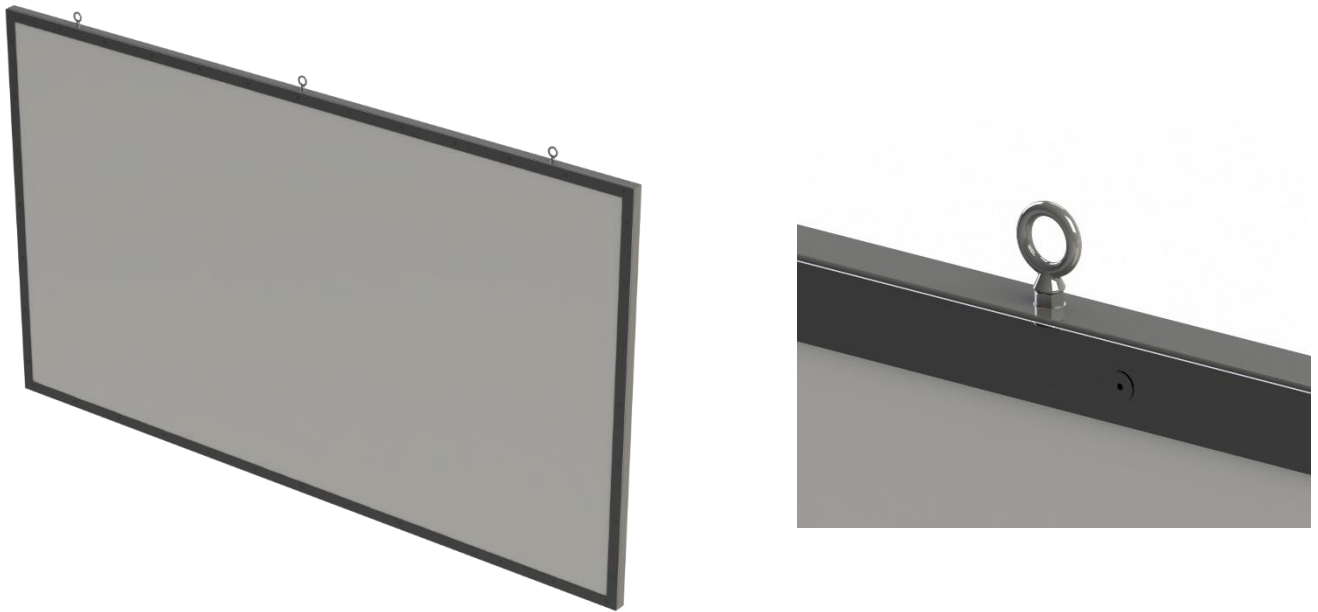

Figure 10: Eye Bolts Mounted Securely to the Frame
2. Use the Eye Bolt Mount to suspend the screen. Eye bolts are already secured to the frame, making your WallScreen ready for installation to an appropriate surface (see Figure 10).